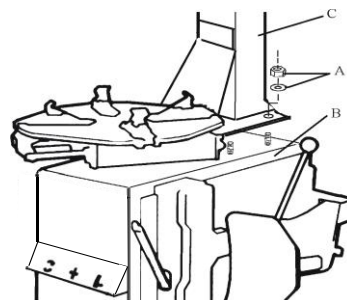

Fig 3
2. Unscrew the nut A on the machine body B as shown in Fig 3.